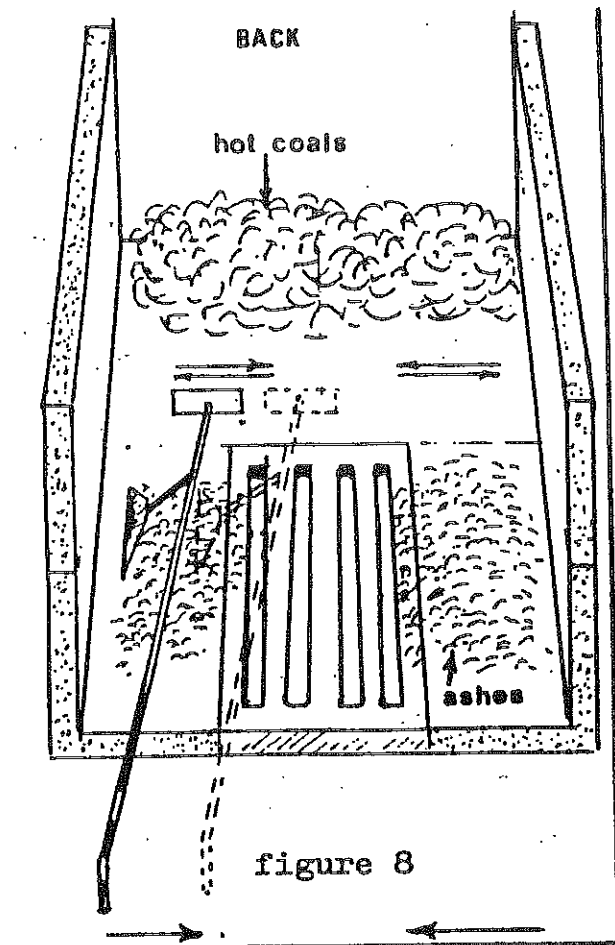

figure 8
2. Scrape the ashes through the grates as shown in figures 8 & 11.